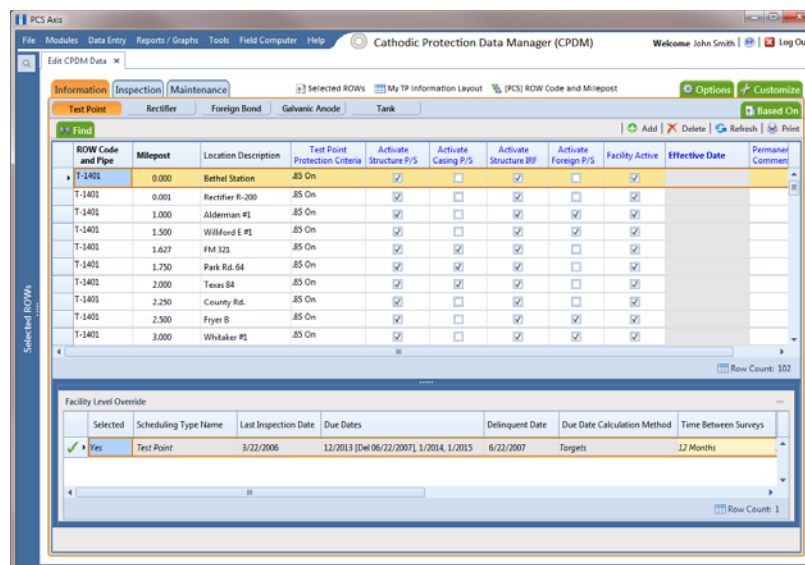

Figure 7-26. Test Point Information Grid
- 2 Open the *Edit <module> Data* window. For example, click **Data Entry > Edit CPDM Data** to open the *Edit CPDM Data* window (Figure 7-26).